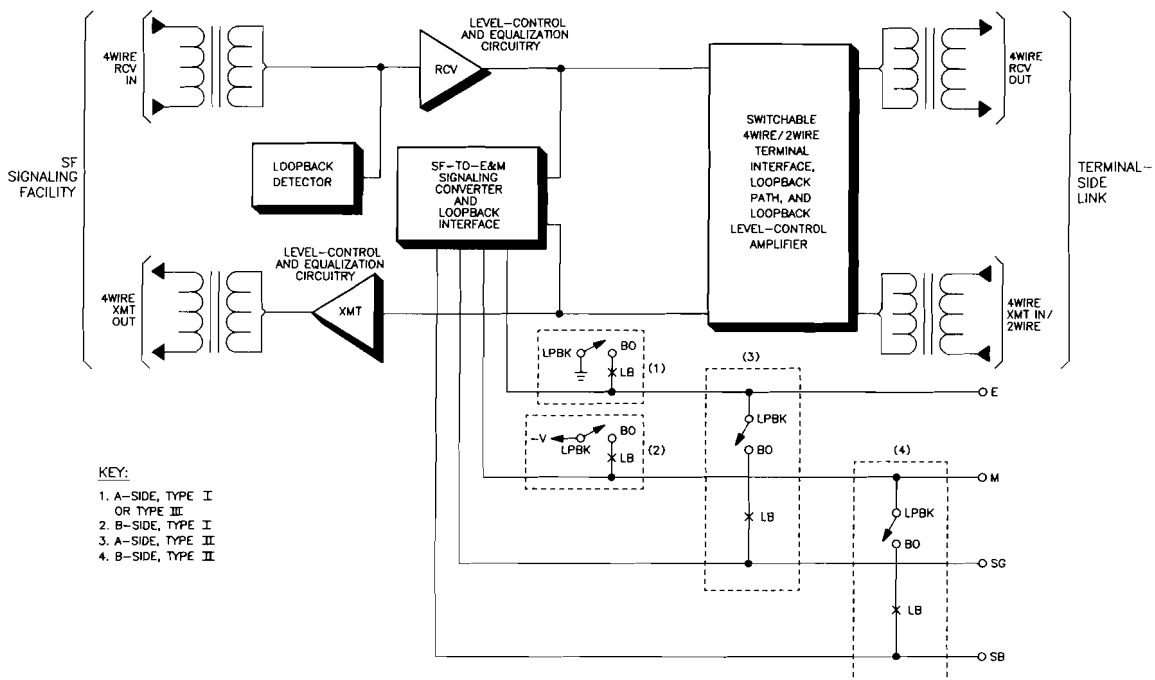

figure 13. Loopback route through 6048A module
2.29 **Overview.** Integral facility-side transmission and signaling loopback circuitry in the 6048A allows local or remote testing of both the module and the facility. This loopback circuitry can be activated either manually (locally) or via 2713Hz tone (remote two-tone loopback). A prescription loopback-level-control circuit introduces from 0 to 23dB of loss or from 0 to 24dB of gain into the loopback path in switch-selectable 1dB increments to provide true equal-level transmission loopback. In addition, a switch option conditions the 6048A to automatically busy out its terminal side during loopback (see paragraph 2.33). Figure 13 shows, in simplified form, the transmission and signaling loopback paths through the module. A front-panel *lpbk* LED lights whenever the module is in the loopback mode.